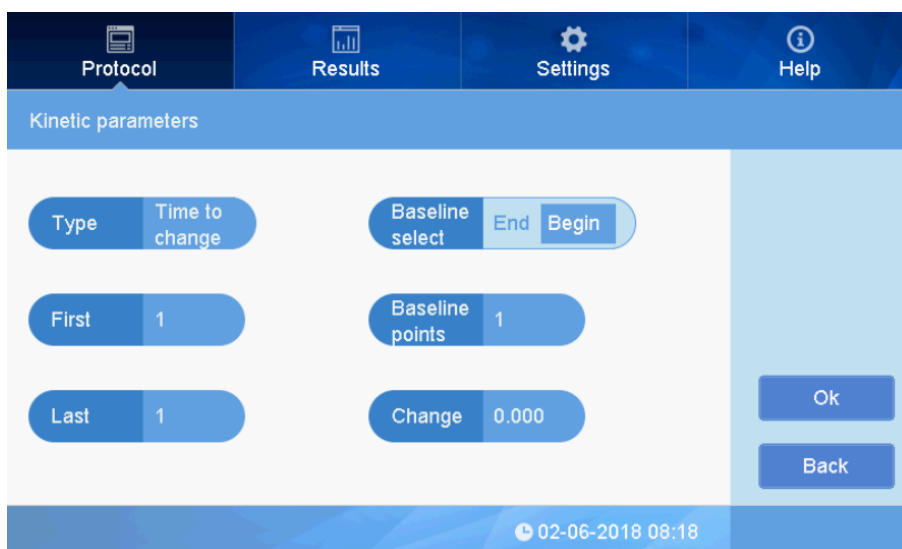

Fig 28
- When the type is set for “time to change”, the three parameters at right are active, see Fig 28, Set parameters according to experimental requirements.